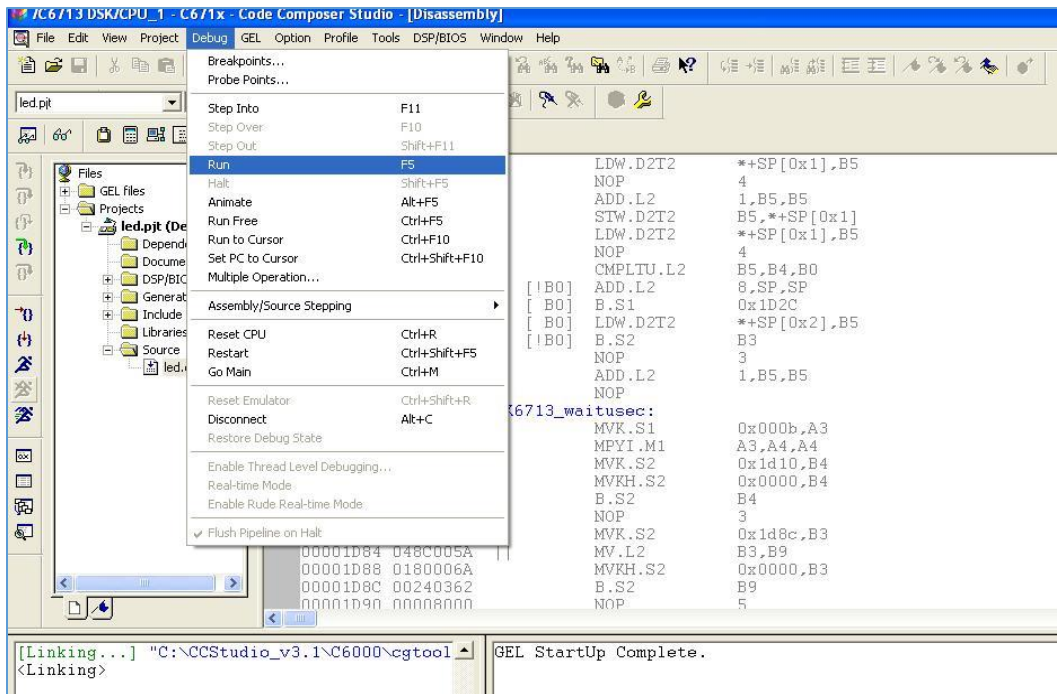

Figure 2.10
7. Run your project (See Figure 2.10) and observe the blinking sequence of LEDs.